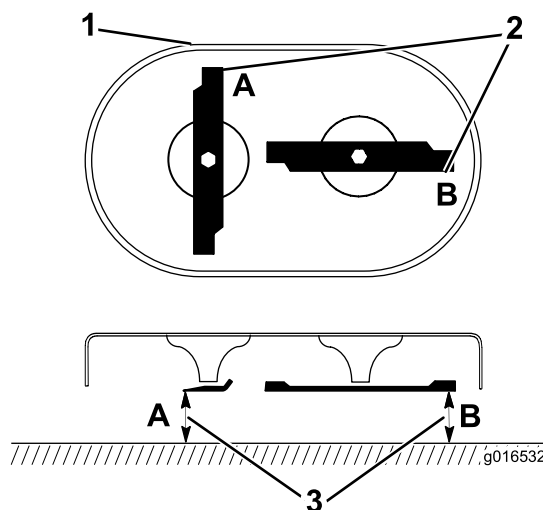

Figure 28
1. Rotate the blades to the position shown in Figure 28.
2. Measure from a level surface to the cutting edges at locations A and B (Figure 28), and record both dimensions.
3. Rotate the blades so that their opposite ends are at locations A and B (Figure 28).